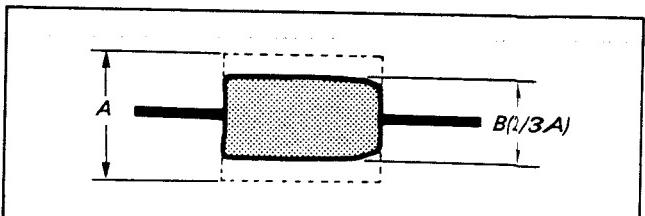

Fig. 4-14
- 4) Set the SEL switch of the track shift & monitor jig to ON, then turn the track shift knob until the RF waveform amplitude is $2/3$. (Fig. 4-14)